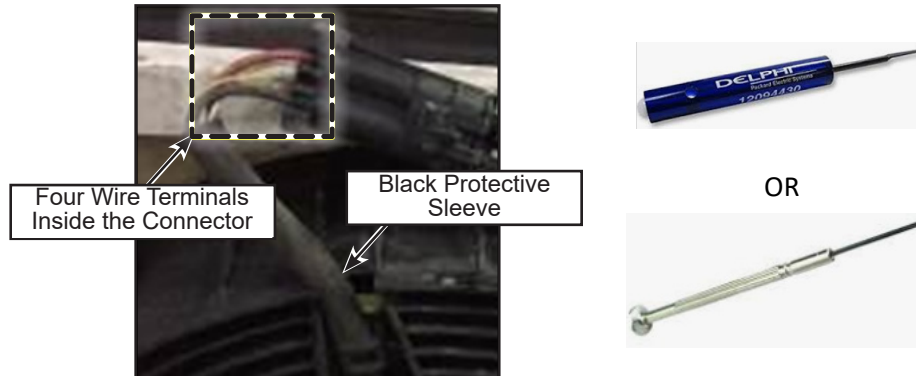
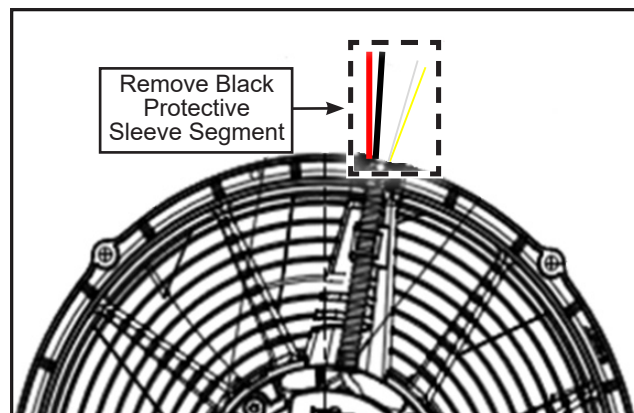

Figure 4 - Fan Side Connector Removal and Tool Options for Terminals Extraction from the Connector Housing
Figure 5 - Black Protective Sleeve Segment Removal
- 1.10. On the fan side, extract the four wire terminals inside the connector using a Delphi extraction tool or a small flat blade screwdriver. Then cut the terminals keeping the maximum wire length (see figure 4). Remove black protective sleeve segment on the outer part of the fan protection shroud (see figure 5) and clean the wires with contact cleaner, if glue or dirt is present.